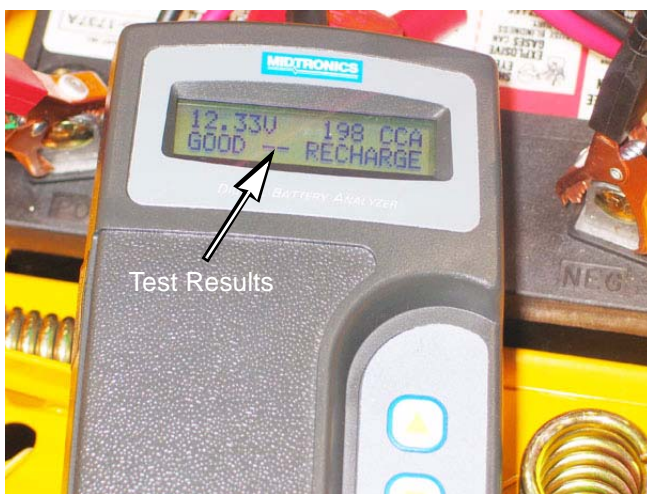

Figure 7.38
4. Read the display of the tester. The tester's display will indicate if the battery passed or not. See Figure 7.38.